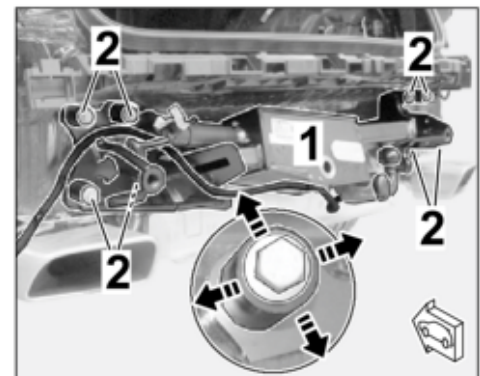

Figure 7
2.1.2 Align bolt guides for the trailer hitch (8 x) symmetrically with respect to the 8 bolt heads M12 x 1.5 x 90 ⇒ *Figure 7 -Magnifier-*.